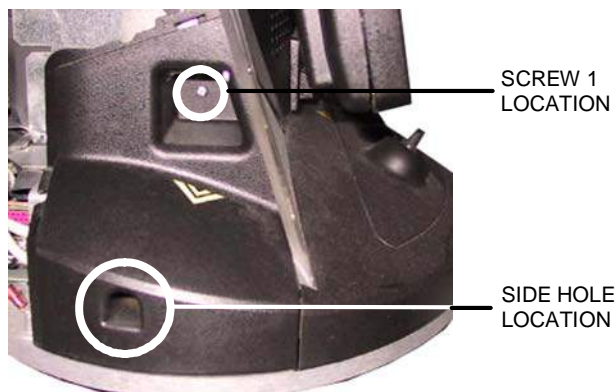
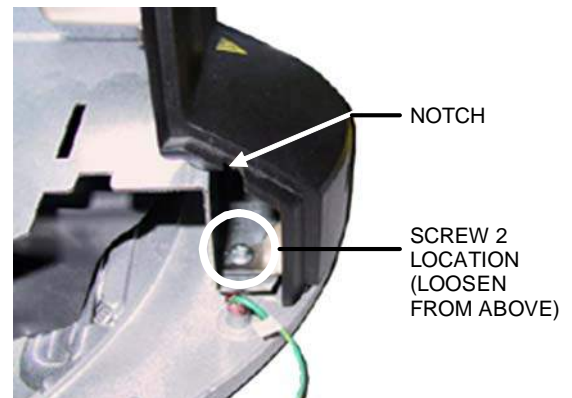

FIGURE 13 - SIDE VIEW OF RIGHT WING HIP
FIGURE 14 - REAR VIEW OF RIGHT WING HIP
15. Remove the right wing hip by removing the two screws securing it. See Figure 13 for screw 1 location. Screw 2 can be loosened by inserting a screwdriver into the inside notch of the wing hip, directly over the screw (see Figure 14).
*NOTE: Even with the two screws removed, this wing hip may be difficult to get out. It may be helpful to insert a screwdriver into the side hole on the wing hip (see Figure 13) and gently pry the wing hip up and out of place.*
30. Resecure the right wing hip with the two screws you removed earlier. See Figures 13 and 14 for screw positions. Be sure that the bottom lip of the wing hip is seated behind the lip of the metal base of the Aurora. When this wing hip locks into place, you will hear a snap.